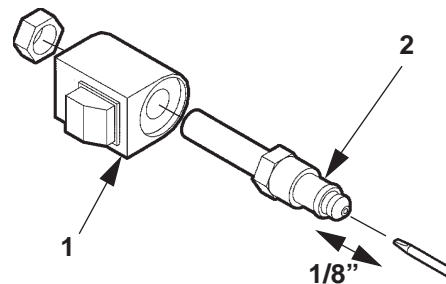

FIG. 74-2
2. Check the Valve Stem by removing the Coil Assembly (**Item 1, FIG. 74-2**). With platform on ground, unscrew the Valve Stem, (**Item 2, FIG. 74-2**) from the Pump. Push on the plunger that is located inside the Valve Stem by inserting a small screwdriver blade in the end. If the Plunger does not move freely (approximately 1/8") replace the Valve Stem. **When re-installing valve stem, torque hex nut to 30 in-lbs.**